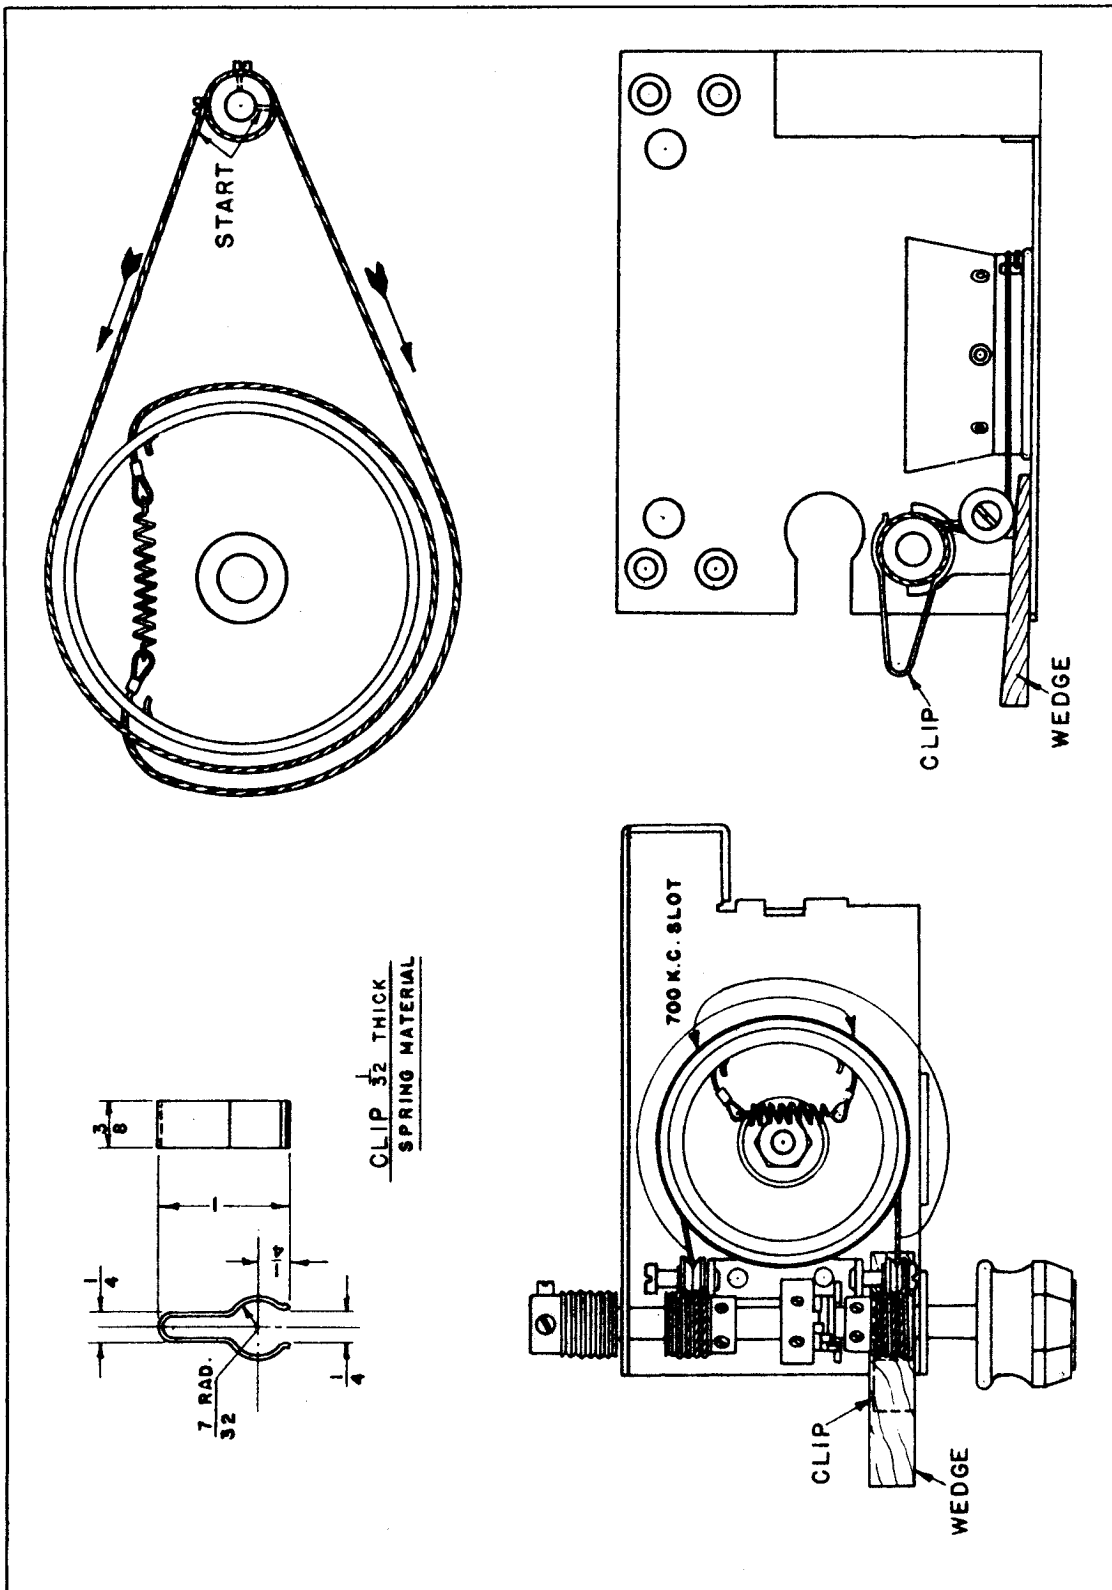

FIG. 34. REPLACING THE DRIVE CABLES
5. Replace the pulley on its shaft, with one set screw facing up and the other facing the right side of the set. (See Fig. 34). Wind the cable, which comes from the BOTTOM of the pulley by turning the knob for THREE turns in a counter clockwise direction. Then LOOP the cable around the pulley for one more turn, without turning the pulley.
7. With a crochet needle, pull the cable under the drum and put the eye through the slot in the drum. (See Fig. 34). If necessary, turn the knob enough to permit the cable to reach the slot.
8. Loop the other cable around the pulley so that it comes off the top of the pulley. Then loop it around the condenser drum and into the other slot. (See Fig. 34).
7. Put a wedge shaped piece of wood under the front idler pulley so that the cable will not slip off of it. (See Fig. 34).
8. Put the clip shown in Fig. 34, which can be made of spring brass, over the pulley. See Fig. 34. Then wind the cable on the pulley by turning the knob.